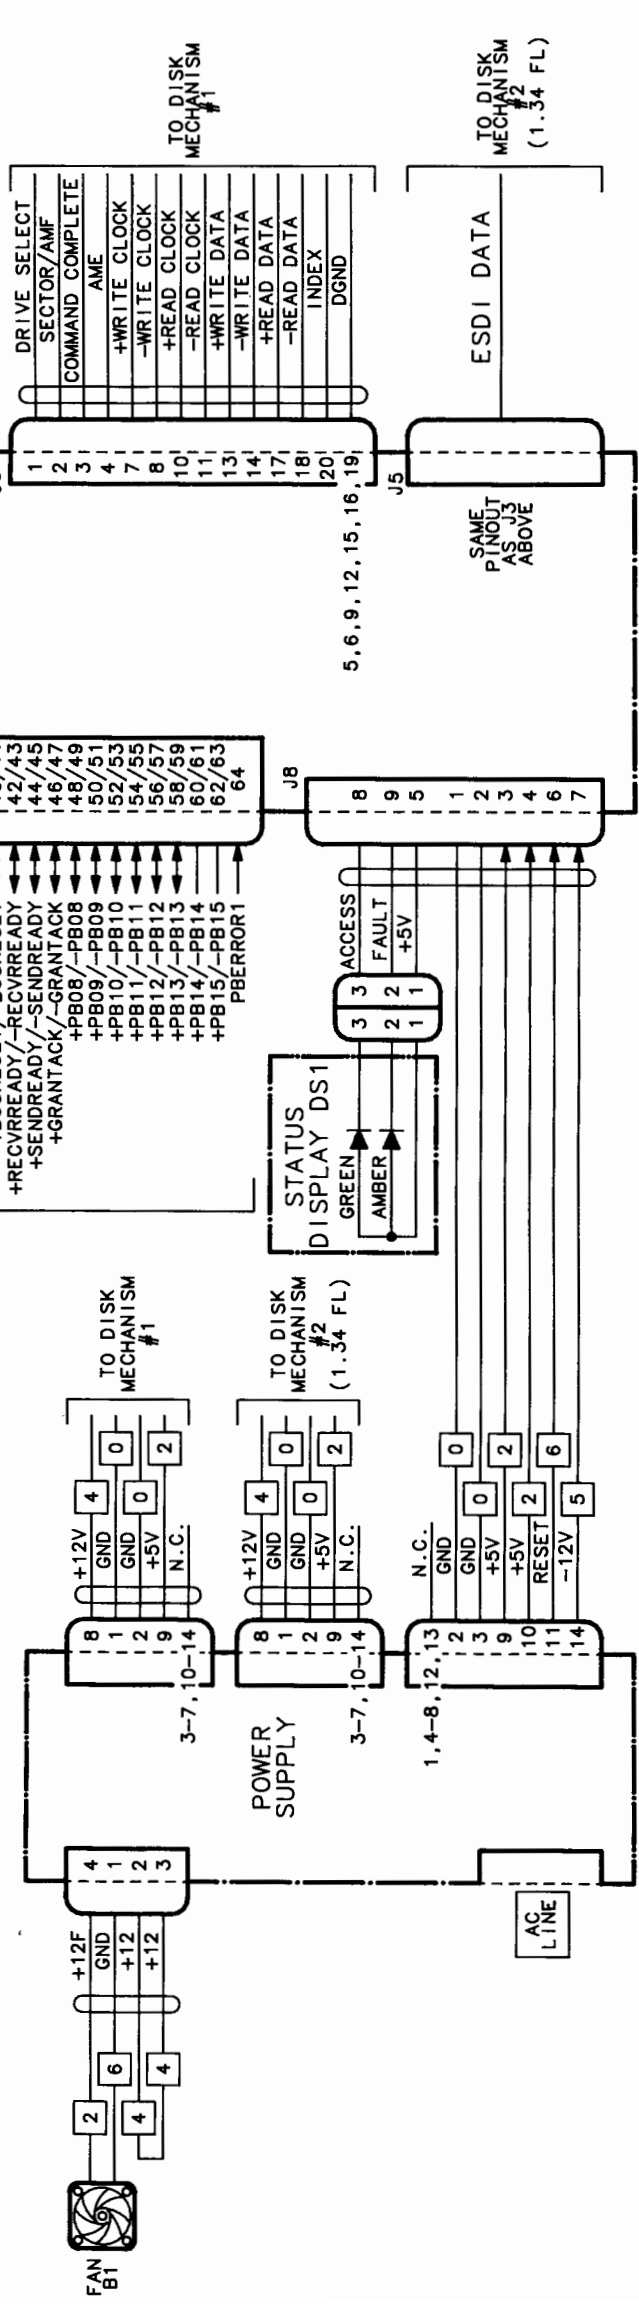

Figure 9-4. 670FL and 1.34FL Signal Distribution
- Figure 9-4. 670FL and 1.34FL Signal Distribution